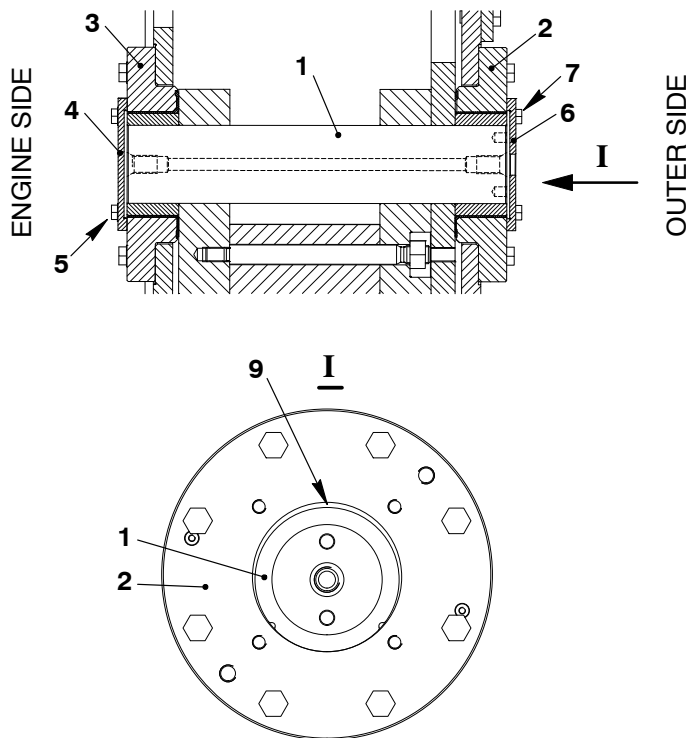

Fig. 11
- 1) On the engine side, remove the four screws (5, Fig. 11) and the locking plates from the bearing cover (4).
- 2) Remove the bearing cover (4).
- 3) On the outer side, remove the four screws (7) from the bearing cover (6).
- 4) Remove the bearing cover (6).
- 5) Use a feeler gauge to measure the clearance between the pin (1) and the bearings (2, 3) at the top position (9).